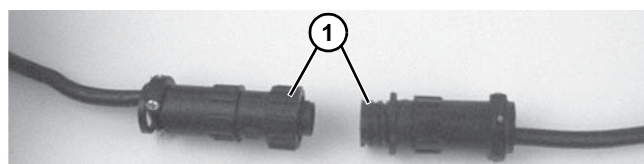

Figure 28
3. For DC variable speed motor, unplug motor cord at disconnect (Figure 28, item 1).